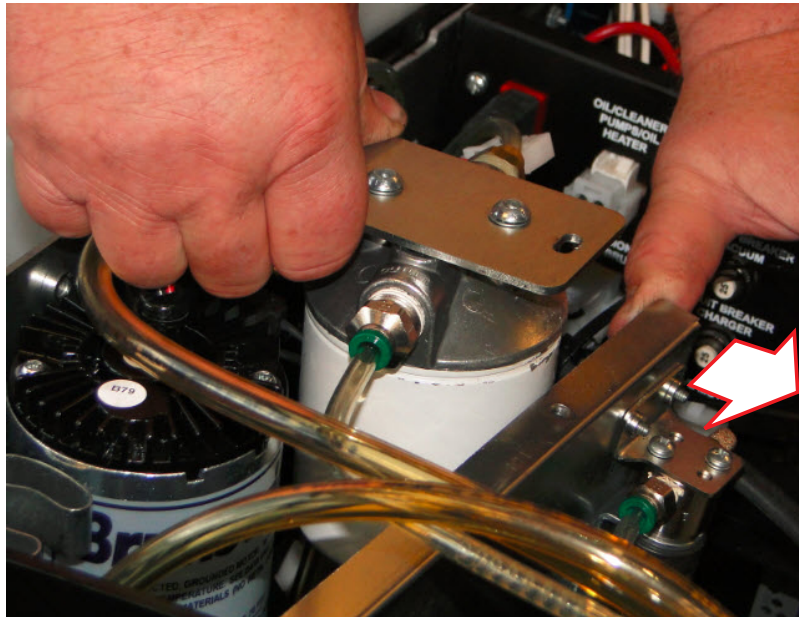

Figure 3
5. Push the oil pan wall away from the bracket so that the complete assembly can be lifted up and out of the oil pan tray. Refer to *Figure 3*.